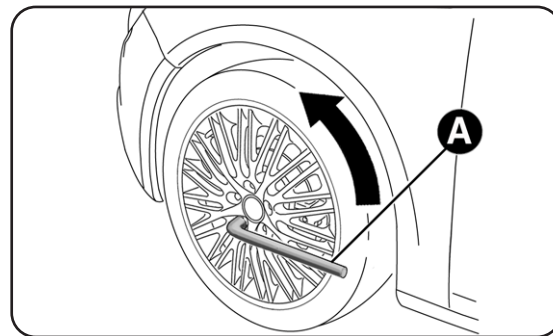
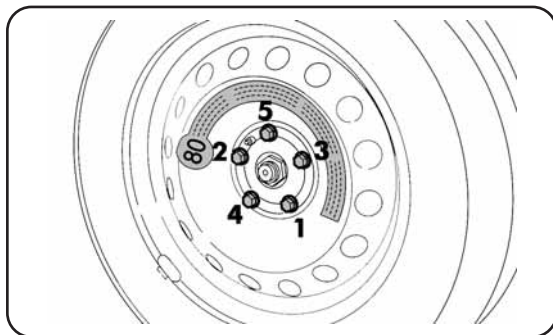

fig. 115
fig. 118
- take tool A-fig. 115 and loosen the fastening bolts by approximately one turn. For versions with alloy rims, shake the car to facilitate detachment of the rim from the wheel hub.
- use wrench A-fig. 115 to fully tighten the retaining bolts;
- use the wrench A-fig. 115 provided to fasten the bolts completely in a criss-cross fashion as per the order illustrated in fig. 118;
- tighten the retaining bolts using wrench A-fig. 115;
- use wrench A-fig. 115 to fully tighten the bolts, following the sequence shown in fig. 118;